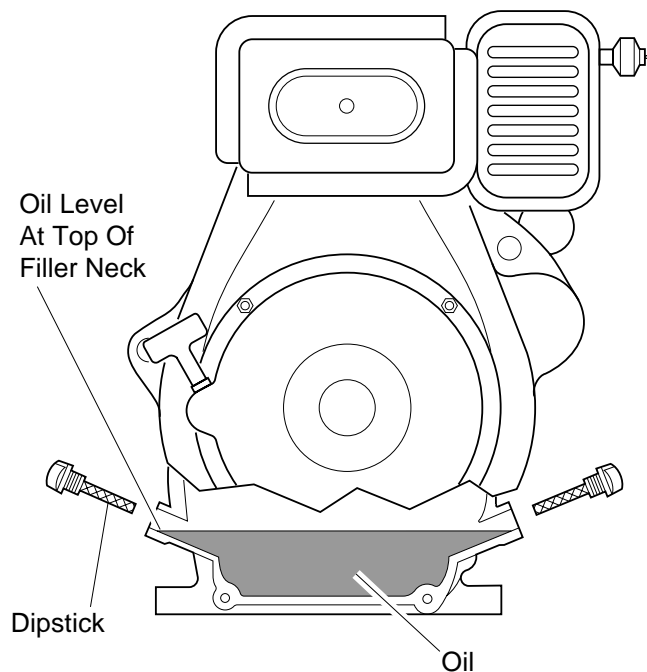

Figure 7 - Checking Oil Level
1. Remove either dipstick (see Figure 7). Wipe dipstick clean.
3. If level is low, fill to top of oil filler neck (see Figure 7). Only use oil recommended in engine owner's manual.